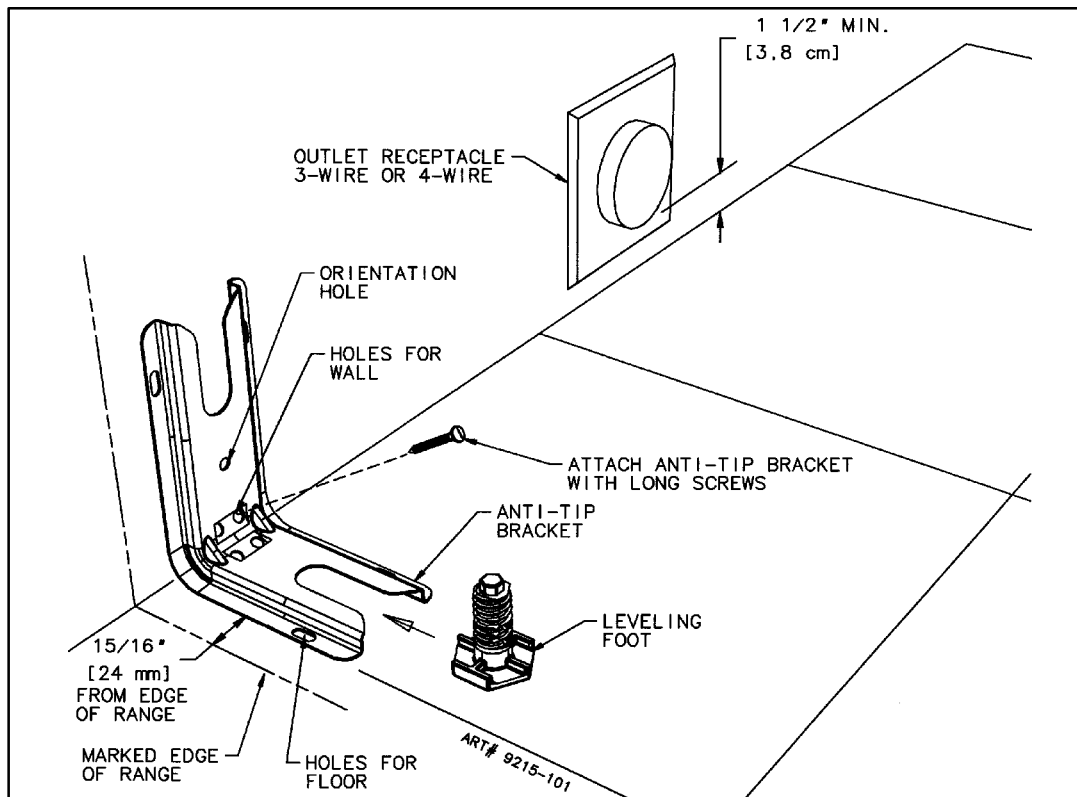
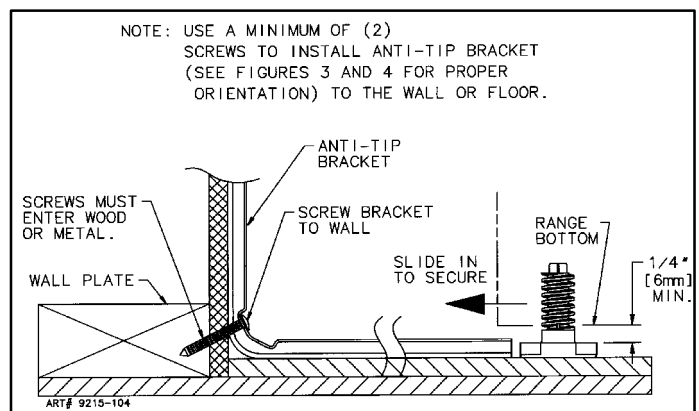

FIGURE 3
FIGURE 5
Install the bracket with the orientation hole in the longer leg against the wall or floor as shown in figures 3 and 4.
STEP 1 - Locating The Anti-tip Bracket (See Figure 3) Installations With Flush Mount Wall Outlet
- Place the BRACKET 15/16" (24mm) from the marked "EDGE" toward center of opening and against the back wall as shown in figure 3, with orientation hole against wall.
- Use the bracket as a template and mark the required holes, as shown in figure 3, for the type of construction you will be using.
1. Floor: Locate the center of the two holes identified in figures 3 and 4 as applicable, as "HOLES FOR FLOOR." Drill a 1/8" (3 mm) pilot hole in the center of each hole (a nail or awl may be used if a drill is not available). Secure the ANTI-TIP bracket to the floor with the two screws provided. Proceed to STEP 3.
2. Wall: Locate the center of the two holes identified in figures 3 and 4 as applicable, as "HOLES FOR WALL." Drill an angled 1/8" (3 mm) pilot hole in the center of each hole as shown in figure 5. (A nail or awl may be used if a drill is not available). Secure the ANTI-TIP bracket to the wall with the two screws provided as shown in figure 5. Proceed to STEP 3.
figures 3 and 4 as applicable, as "HOLES FOR FLOOR". Secure the ANTI-TIP bracket to the floor. Proceed to STEP 3.
- B. Align the range to its designated location and slide it back into position. Note: A minimum clearance of 1/4" (6 mm) is required between the range and the leveling foot that will engage the ANTI-TIP bracket, see figure 5.